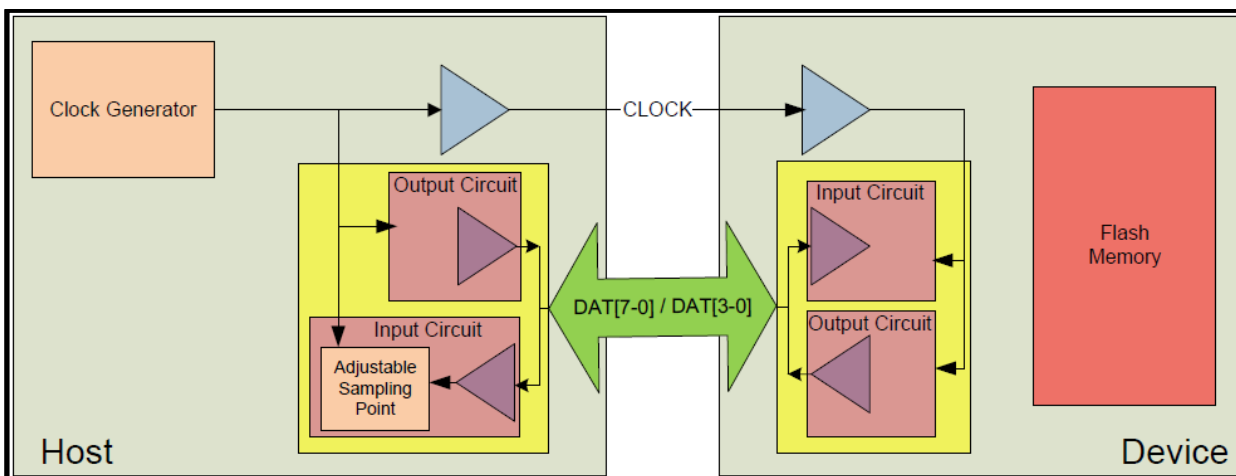

Figure 2— System Block Diagram
**Figure 2** shows a typical HS200 Host and Device system. The host has a clock generator, which supplies CLK to the Device. For write operations, clock and data direction are the same, write data can be transferred synchronous with CLK, regardless of transmission line delay. For read operations, clock and data direction are opposite; the read data received by Host is delayed by round-trip delay, output delay and latency of Host and Device. For reads, the Host needs to have an adjustable sampling point to reliably receive the incoming data